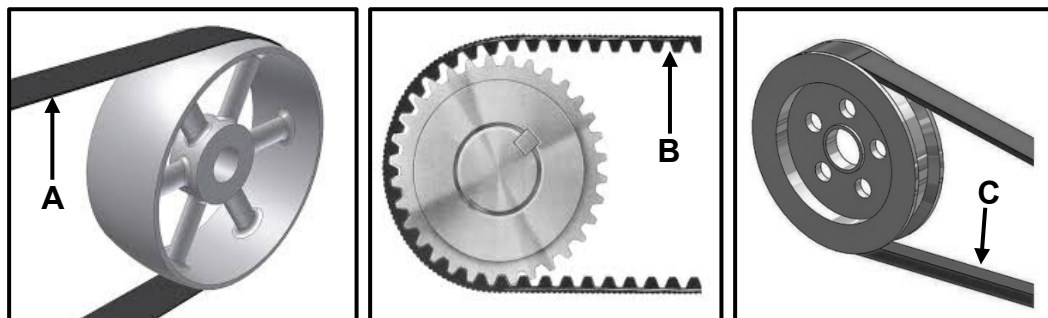

FIGURE 9.5
- 9.5 FIGURE 9.5 below shows different types of belt drives. Identify the different types of belts **A–C**.